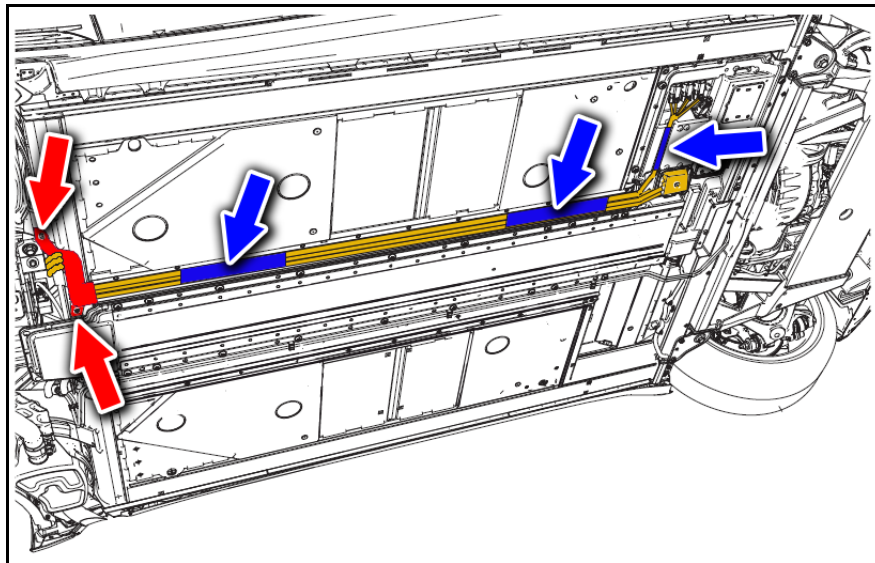

Figure 3I
3.9. Open up all three HV wiring loom troughs (highlighted in blue - see Figure 3I) and lay the HV harness over the arms of the vehicle lift.
3.10. Using Figure 3I, remove the two bolts (red arrows) from the front HV wiring loom guide (highlighted in red) and lay it to the side without removing it from the HV harness.